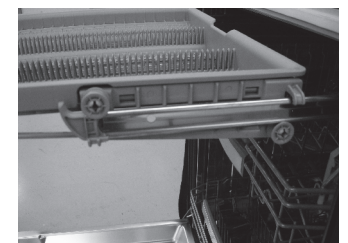

Figure 14
- While holding one roller guide, slide drawer's top wheel over the roller guide stop (see **Figure 14**).